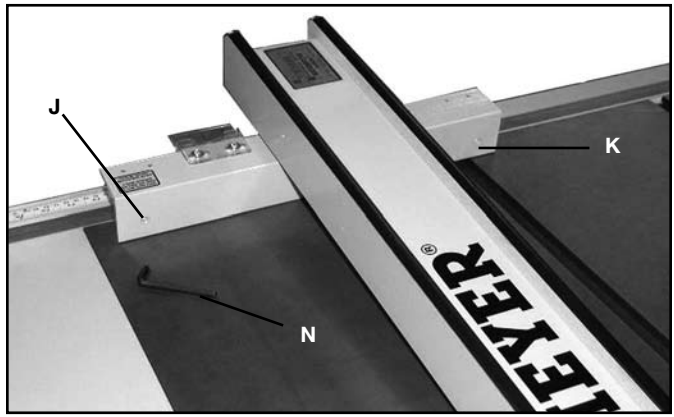
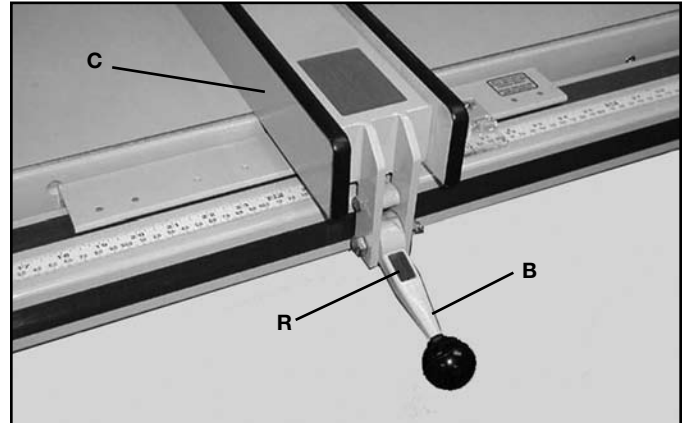

FIG. 27
FIG. 28
4. The fence (C) Fig. 26, must be adjusted so it is parallel to the miter gage slot. Slide the fence until the bottom edge is in line with the edge of the miter gage slot as shown and push down on locking handle (B). Check to see if the fence (C) is aligned with the miter slot the entire length of the table. If an adjustment is needed, lift fence (C) off the guide as shown in Fig. 27. Slightly tighten or loosen adjusting screws (J) or (K), using a 3/16" Allen wrench (N), not included. Replace the fence on the guide tube and check again. Repeat this adjustment until you are certain the fence is parallel to the miter gage slot. **NOTE: Very little movement of the adjusting screws is necessary to adjust the fence.**
5. When the fence locking handle (B) Fig. 28, is pushed to the down position, the fence assembly (C) should be completely clamped to the guide tube. If the fence assembly (C) is not completely clamped to the guide tube when the handle is pushed down, as shown, lift up handle (B) and raise fence off the guide tube as shown in Fig. 27. Slightly tighten the two adjusting screws (J) and (K) (if the fence is too loose) or loosen (if the fence is too tight), using a 3/16" Allen wrench (N), not supplied. NOTE: Screws (J) and (K) should be tightened or loosened an equal amount. Replace the fence back on the guide tube and recheck to see if the fence assembly is completely tightened to the guide tube with the locking handle (B) pushed down. Adjust further if necessary.
7. To move the fence along the guide tube, simply lift up the locking handle (B) Fig. 30, as shown, slide the fence to the desired position on the guide, and push down locking handle (B) Fig. 28 as shown, to lock in position. NOTE: A magnet (R) Fig. 28, is provided to hold the handle in the up position when moving the fence.